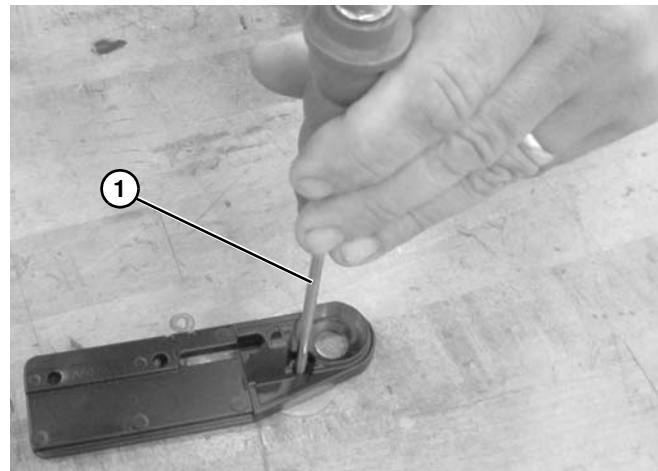
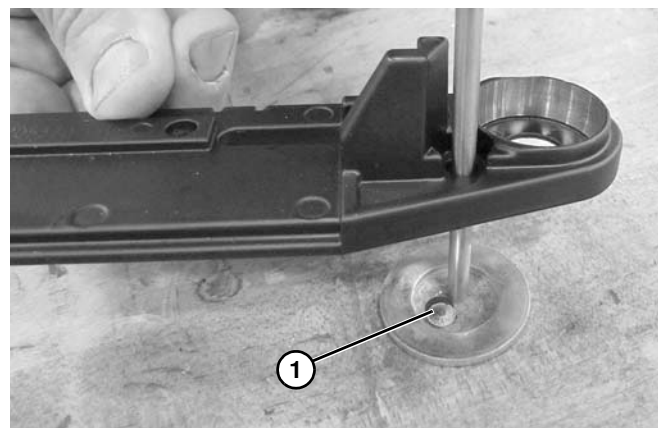

Figure 93
Figure 94
4. Repeat the same operation to knockout (**Figure 94, item 1**) for alignment screw hole using 1/8" - 3/16" punch (**Figure 93, item 1**) or M5 - M6 bolt.